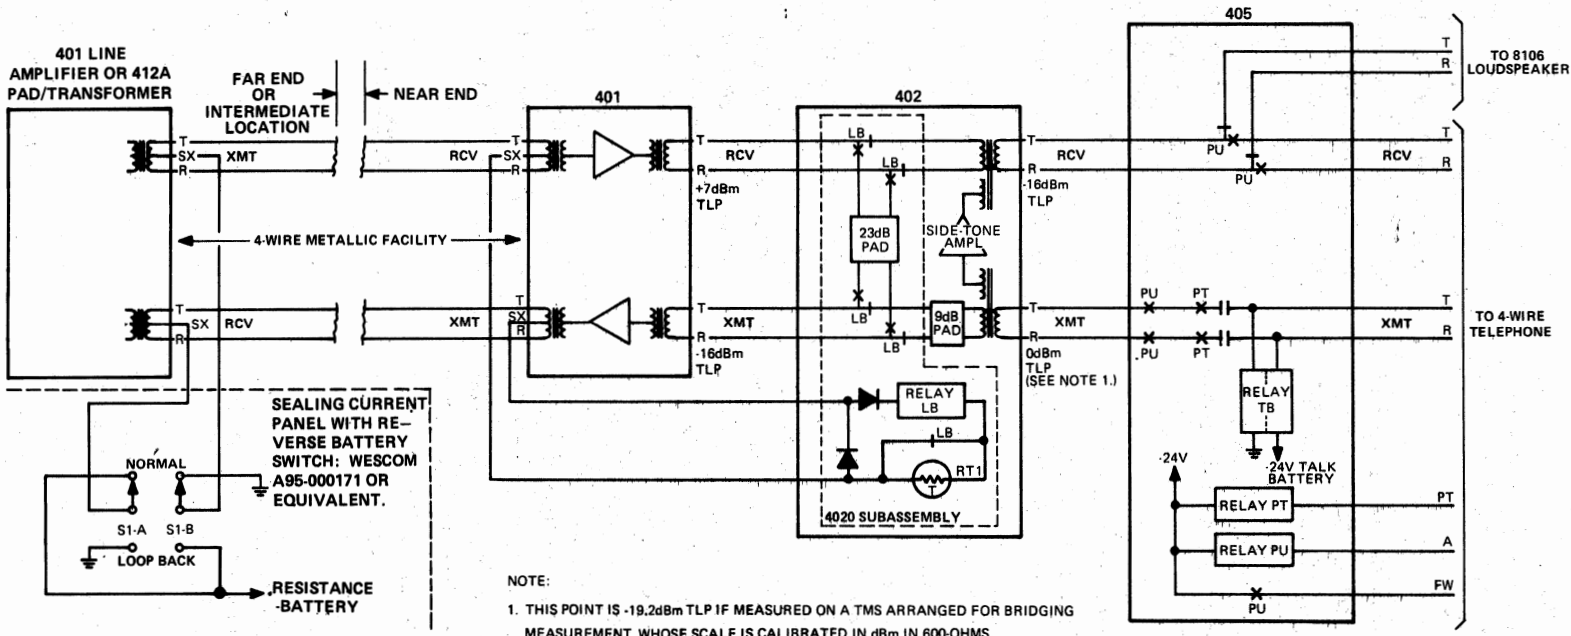

Figure 2. Typical Voice Signaling Application of the 402 Module
2.01 A typical 4-wire station arrangement employing voice signaling and incorporating a 402 module to terminate a 4-wire private line is shown in Figure 2. The 401 module provides line impedance matching, voice frequency amplification, and amplitude equalization (if desired). Additionally, it derives a pair of simplex leads from the metallic facility to provide for remote control of the loopback condition and the application of sealing current.
3.07 The 402, arranged for loopback operation, is provided with the optional 4020 Loopback Subassembly. In this arrangement, screw-type option switches A, B, C and D on the 402 pc board are open and the transmit and receive voice paths to the 4-wire line are completed through normally closed transfer contacts on relay LB (released) in the 4020. Relay LB is operated by applying a dc voltage to terminals 35 and 31 of the 402 (terminal 35 positive with respect to terminal 31). In system operation (as shown in Figure 2), operating current for relay LB (and sealing current) is applied to the simplex leads of the line amplifier at the distant end. Simplex leads derived by the line amplifier at the near end of the metallic facility conduct this current to the 402 module entering on terminals 31 and 35. Terminal 31 connects to the simplex lead derived from the receive path (far end transmit path) and terminal 35 connects to the simplex lead derived from the transmit path (far end receive path).